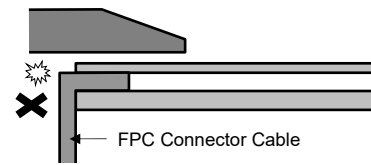

Fig.7
g. FPC Connector Cable (Fig.7)